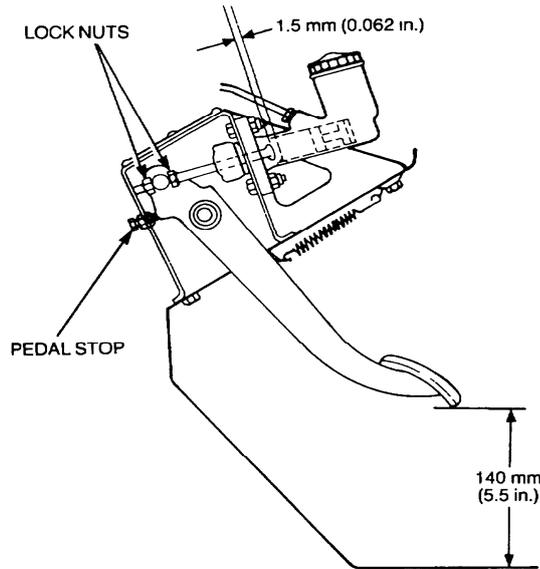

Figure 53 Clutch Pedal Adjustment
- Check the distance from the lower edge of the clutch pedal to the floor (Figure 53).